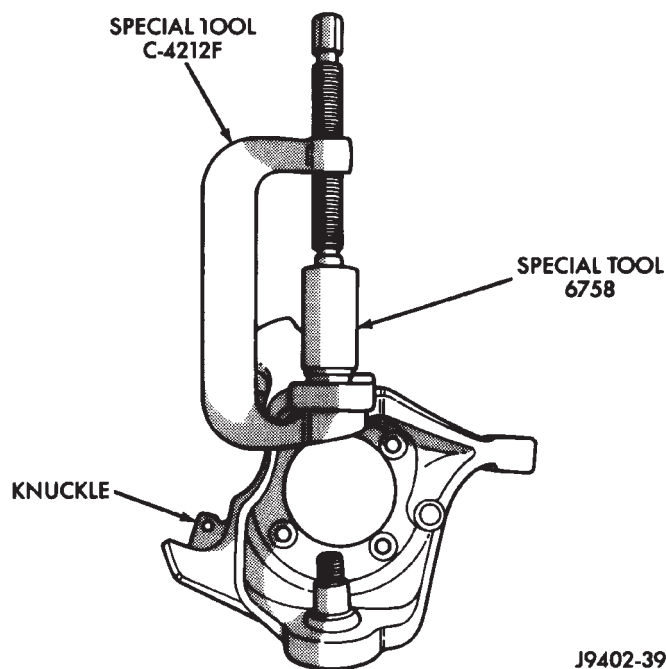

Fig. 27 Upper Ball Stud Install
(1) Position tools as shown to install upper ball stud (Fig. 27).